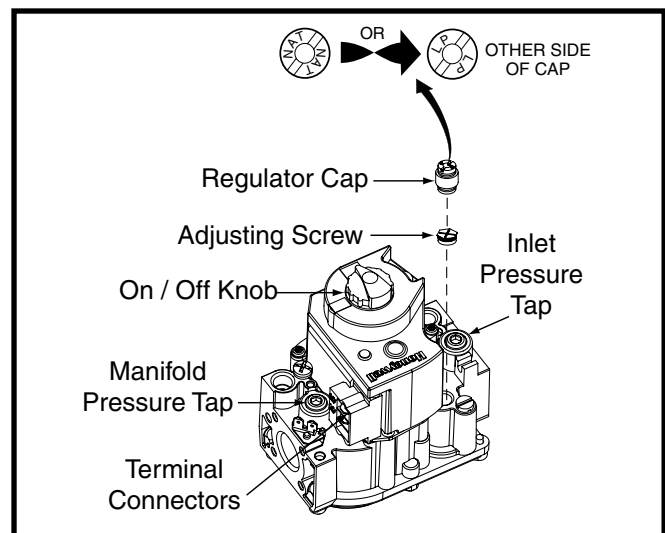

Figure 18. Gas Valve
Converting single stage valves to LP/Propane requires the replacement of the burner orifices and flipping the regulator cap to the side marked LP. The end facing up should now read LP. See Figure 18.
5. Turn the gas valve ON/OFF knob to the OFF position. See Figure 18.
2. Using a 3/16" Allen wrench, remove the plug from the inlet pressure tap (INLET side of gas valve). See Figure 18 (page 19).
4. Turn the gas valve ON/OFF knob to the ON position. See Figure 18 (page 19).
3. Using a 3/16" Allen wrench, remove the manifold pressure tap plug located on the outlet side of the gas valve. See Figure 18 (page 19).
1. **Single stage gas valve:** Remove the regulator cap from the top of the gas valve. See Figure 18 (page 19).